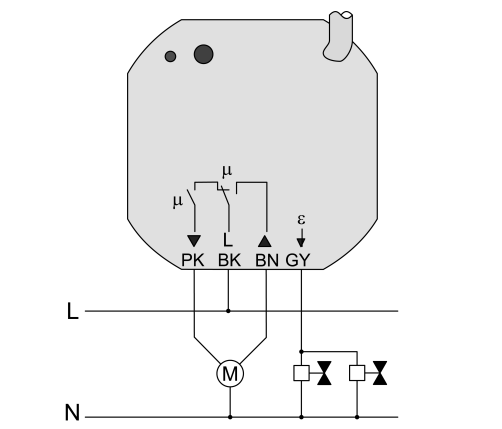

Figure 5
- Raccorder la charge (figure 5). Utiliser les bornes de raccordement fournies.